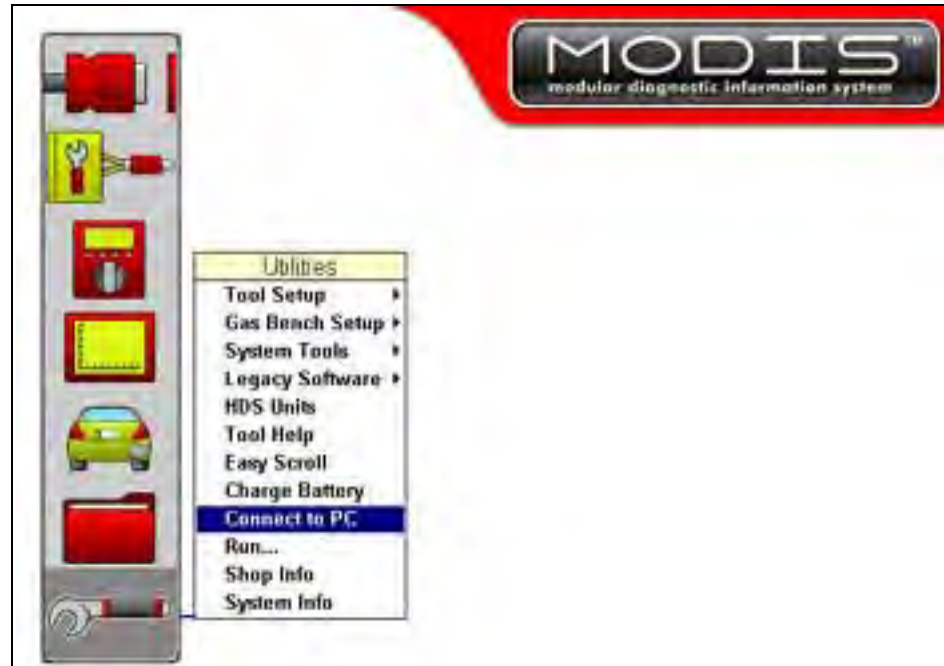

Figure 2-13 Sample MODIS utilities menu
- From the Main Menu, navigate to **UTILITIES > Connect to PC**, and press **Y** to select (Figure 2-13).